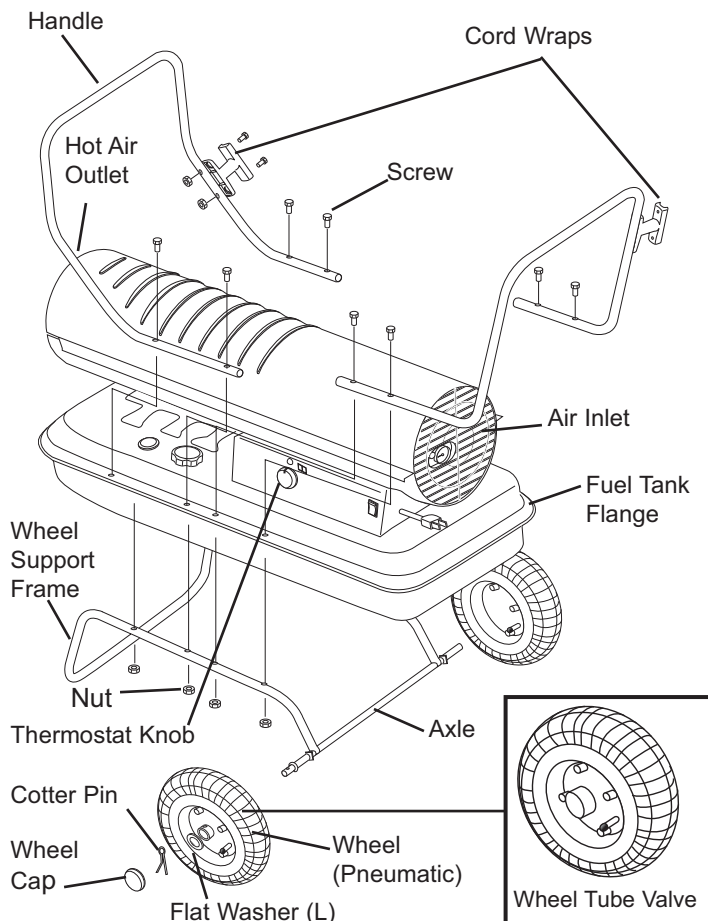

Figure 7. Assembly of Models HH-125T/175T/215T-KFA
1. Slide axle through holes in wheel support frame. Slide wheel bushings and flat washer (A) on to each end of axle.
2. Slide wheels on to each axle, being sure that the valve stem (if pneumatic) is to the outside (**see Figure 7.**).
3. Slide flat washers (B) onto axle past the small hole. Insert cotter pin in axle hole and bent legs of pin with needle nose pliers to secure.
4. Snap the wheel caps onto the large washers (B).
6. Take the front handle and align the mounting holes with the corresponding holes in the tank flange/wheel frame. Slide a screw (A) through the holes and loosely attach a nut. Repeat for the other 3 holes, then fully tighten all 4 screws and nuts.
1. Align holes in cordwrap with corresponding holes in front handle. Insert screws (B) through holes, attach nuts and tighten (**see Figure 7.**).